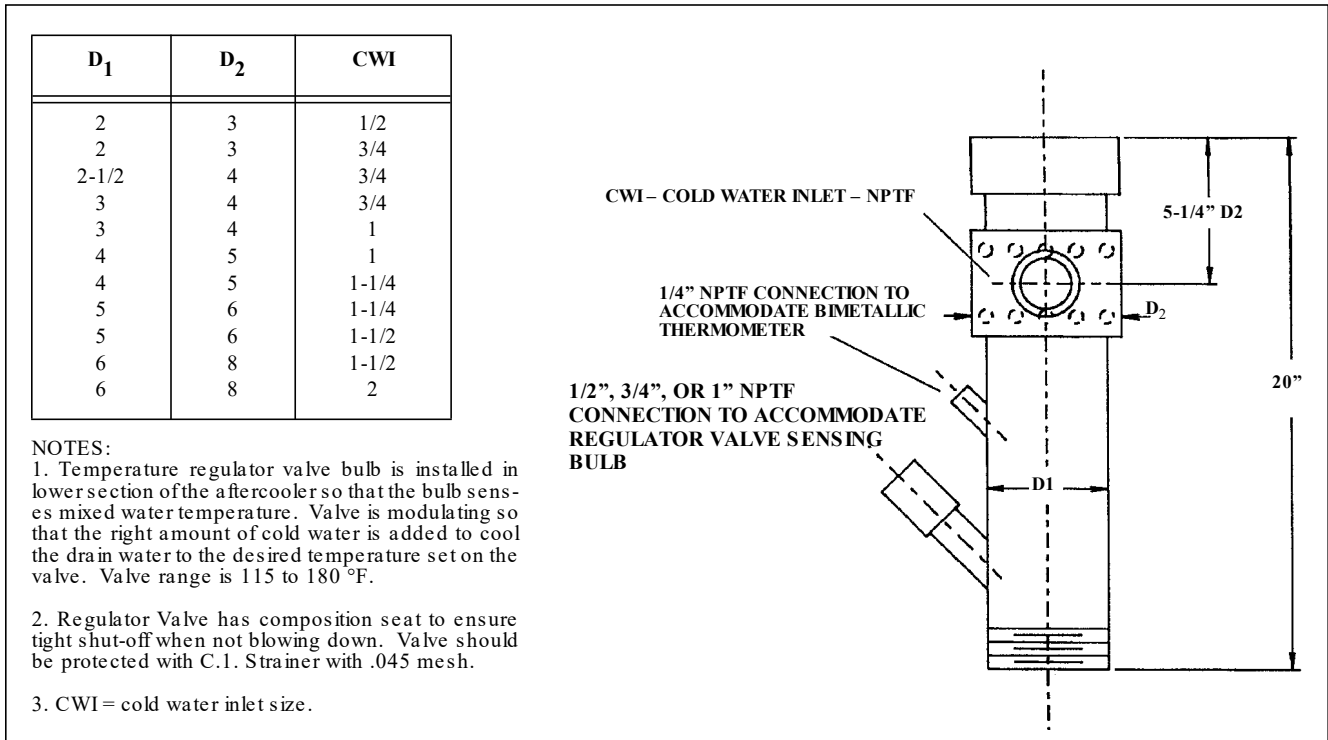

Figure 4. Automatic Drain Water Aftercooler (20AO) Dimensions
- Model 20AO Jacket Type After Cooler (Figure 4) - Required in some areas. Has mixing holes corresponding to the cold water inlet size. The lower portion is designed with wells to accommodate automatic control bulb and thermometer. When ordering state cold water inlet size.